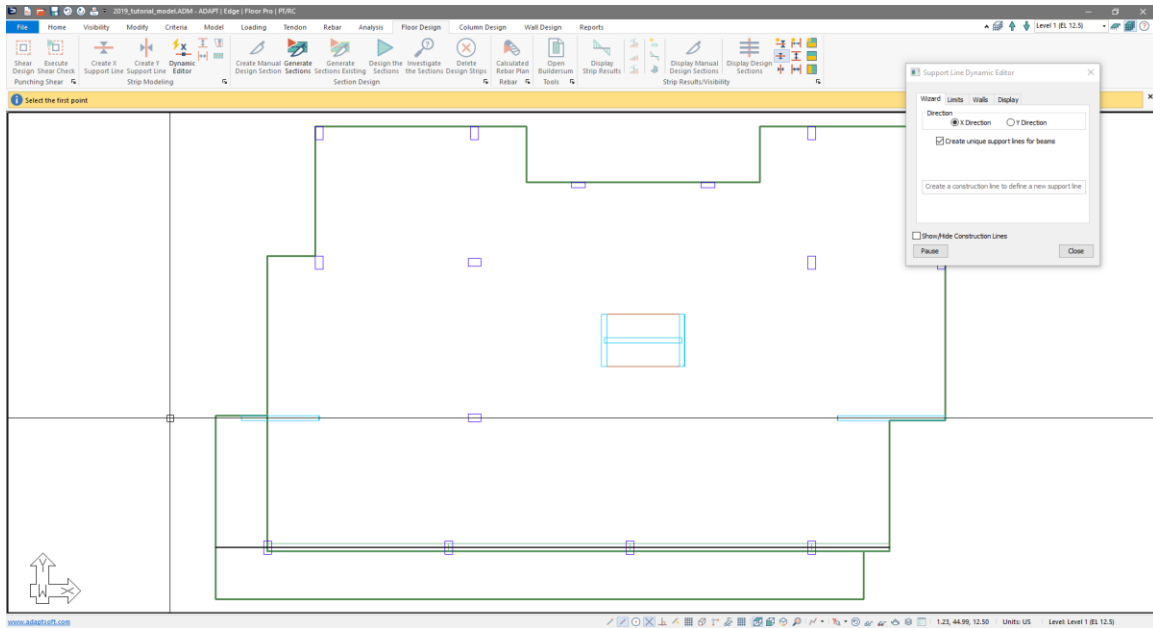

Figure 9-9
- Position your mouse along the second line of supports but outside of the slab to the left of the floor as shown in **FIGURE 9-9**.